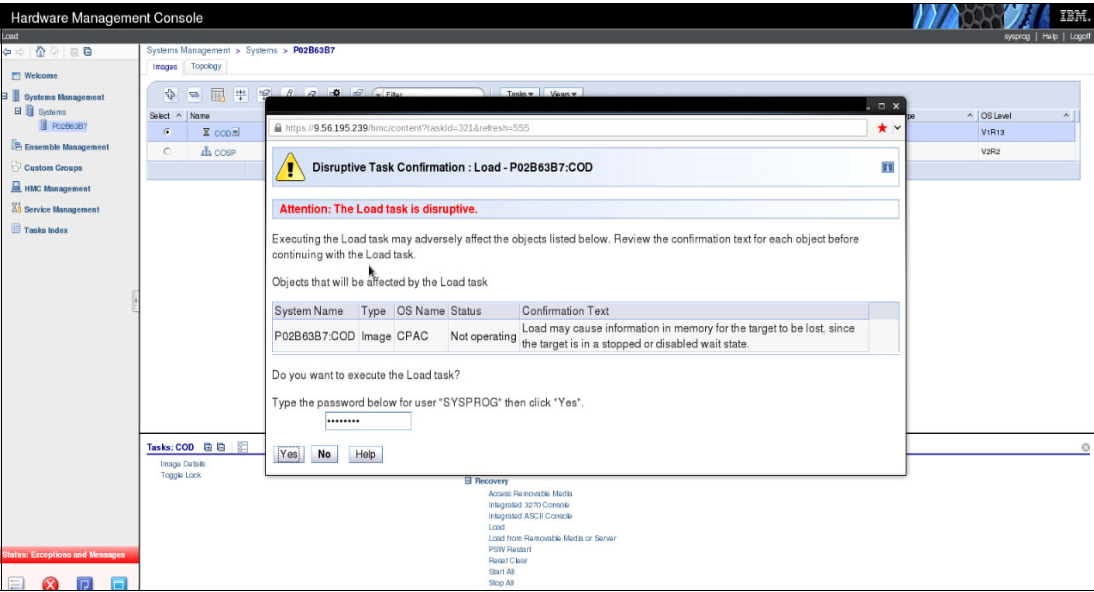

Figure 9-6 Disruptive task confirmation window
6. A disruptive task confirmation window opens, as shown in Figure 9-6. We enter the password and click **Yes** to proceed.